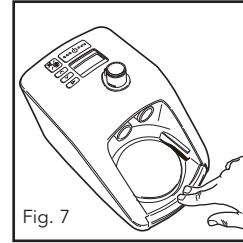
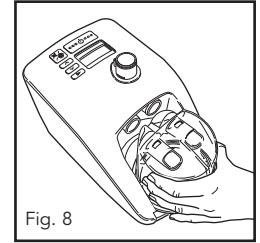

Fig. 7
Fig. 8
5. Fit the water chamber to the unit by pressing down the finger guard (Fig. 7) and sliding the chamber on, carefully aligning with the blue chamber port ends (Fig. 8). Push the chamber on firmly - when the chamber is fitted correctly, the finger guard will click into place and there should be a gap of about 2 mm (0.08") between the finger guard and the rim on the base of the chamber. Go to Step 8 below.